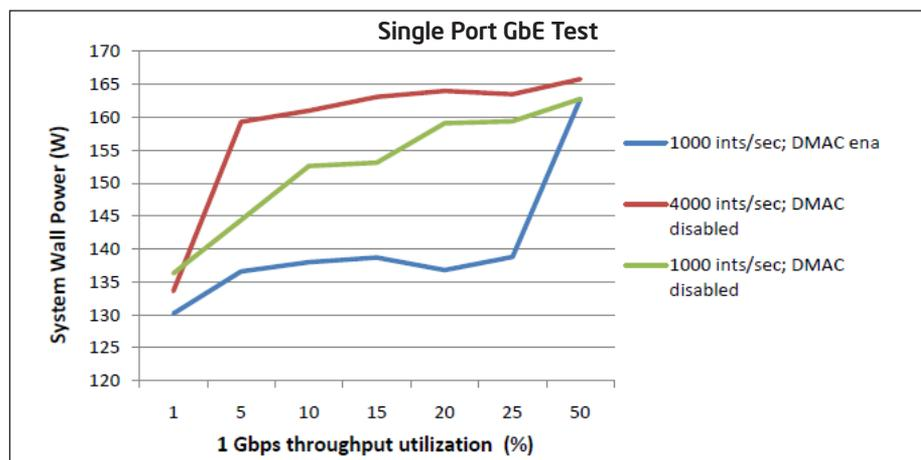

Figure 4
- Adding DMA Coalescing creates further power savings. Figure 4 shows how moderating interrupts improves power efficiency and the addition of DMA Coalescing further increases power savings.
- Beyond optimal throughput, power savings begin to decrease. Figure 4 shows the power savings of a single port using interrupt moderation and DMA Coalescing within the context of network usage.